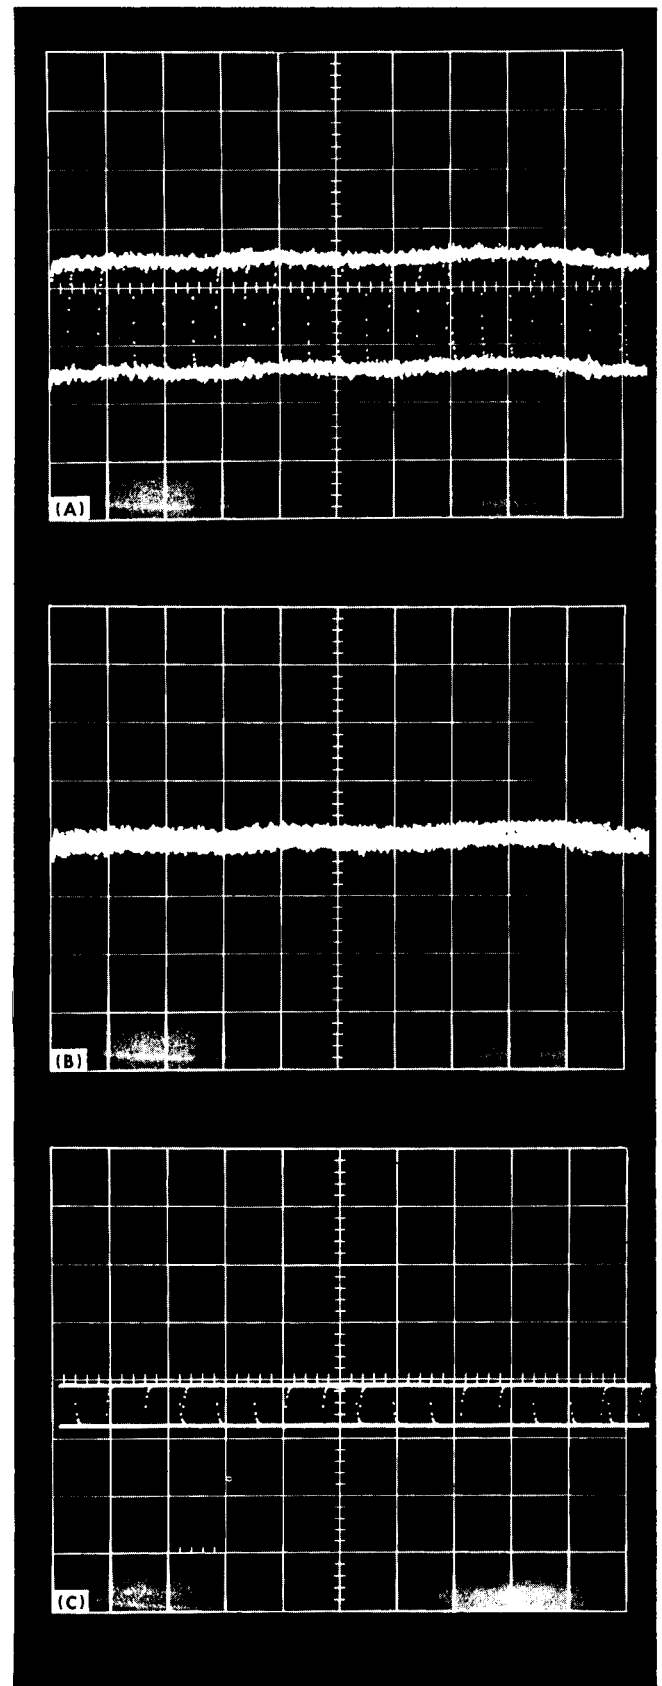

Fig. 7-5. Typical displays (SMOOTH position) showing steps used in measurements of tangential noise.
g. Set the SMOOTH-NORMAL switch to SMOOTH, and repeat steps b through f. The tangential noise in the SMOOTH position is  $\leq 1$  mVolt. See Fig. 7-5.